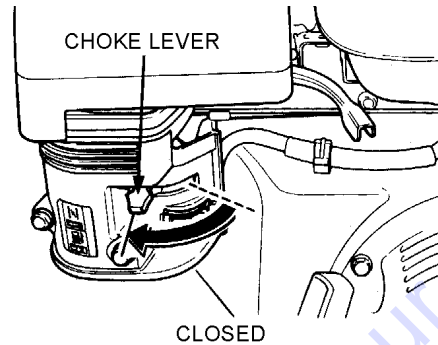

Figure 14. Engine Choke Lever (Closed)
3. Place the choke lever (Figure 14) in the "CLOSED" position if starting a cold engine.